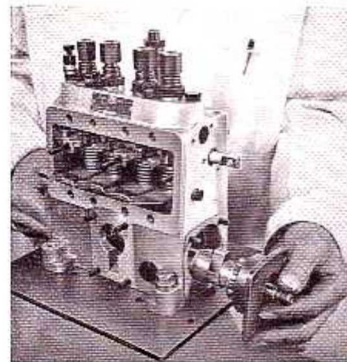

FIG. 6. REMOVING CAMSHAFT
9. Withdraw the camshaft complete with races (27) and end plate from the pump housing (Fig. 6).